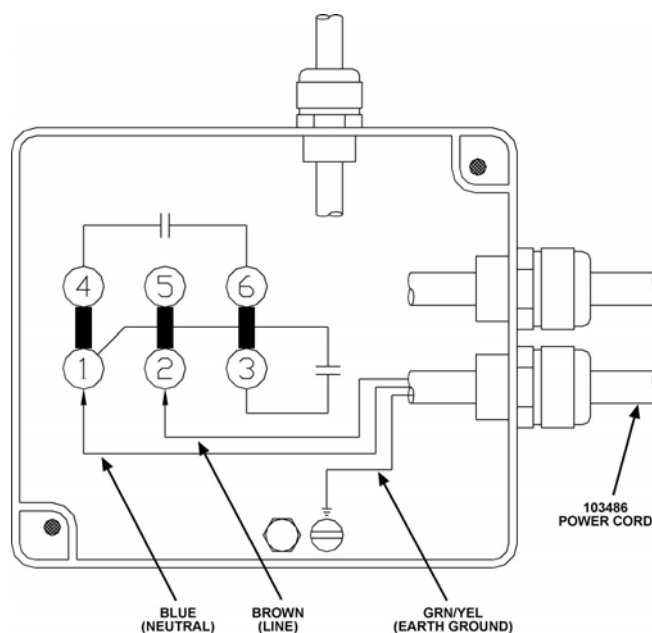

Figure 2: Wiring the Leybold SV25B Vacuum Pump
4. Refer to Figure 2. Locate terminal one and attach the blue wire (neutral) to it. Locate terminal two and attach the brown wire (line) to it. Locate the earth ground terminal off to